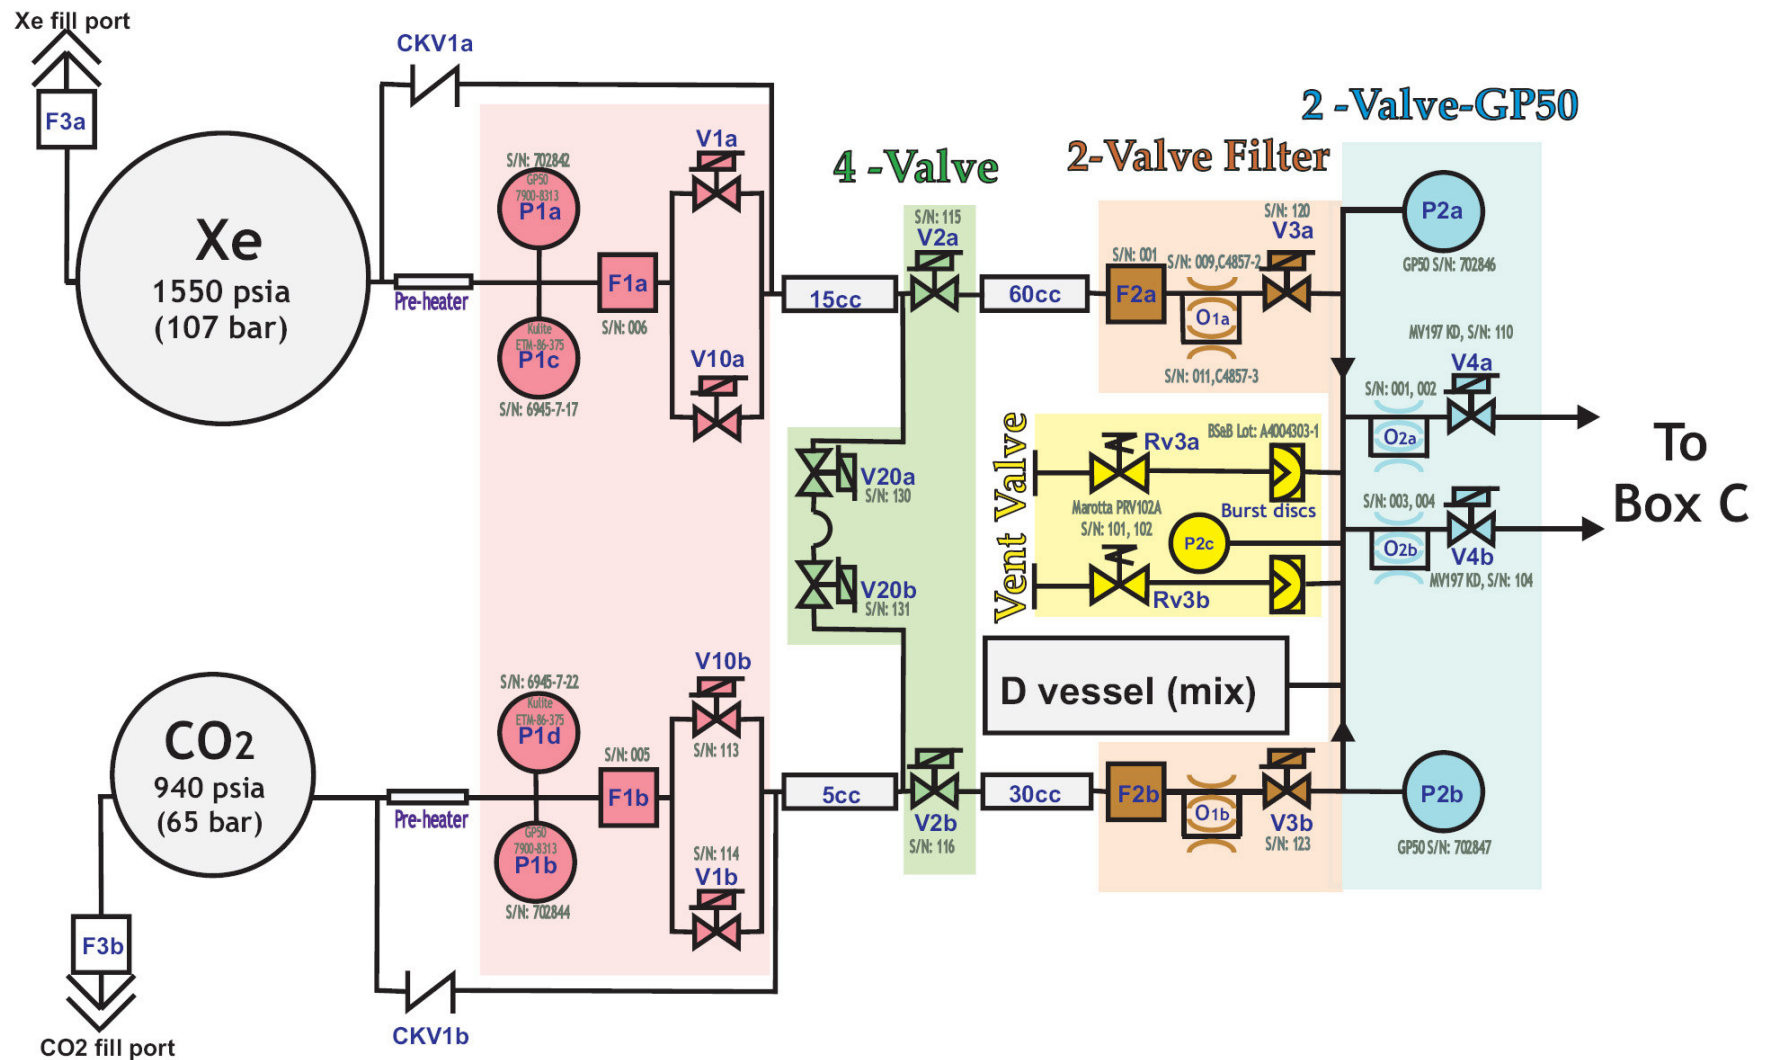

Figure 5.5.3-1 Box S TRD Gas Supply Detailed Schematic [PV pressures are at 77° F (25° C) with a nominal fill level]
Box S, shown in Figure 5.5.3-1, contains the gas reserves for the TRD. Gas is released from the two reservoirs into the mixing vessel (D), where it is combined in the required ratio and stored until such time as the straw tubes need to be refilled. Once needed, the combined gas is transferred to Box C for circulation.
Maximum design pressure for the gas reservoirs, the buffer volumes, and the associated piping through valves V3a and V3b have been determined through thermal analysis and all items have been shown to have sufficient structural margin. MDP of the mixing vessel and all plumbing between V3a/V3b and V4a/V4b is set at 300 psi based on the redundant burst disks shown in Figure 5.5.3-1. This hardware has also been shown to have adequate margin through structural analysis.